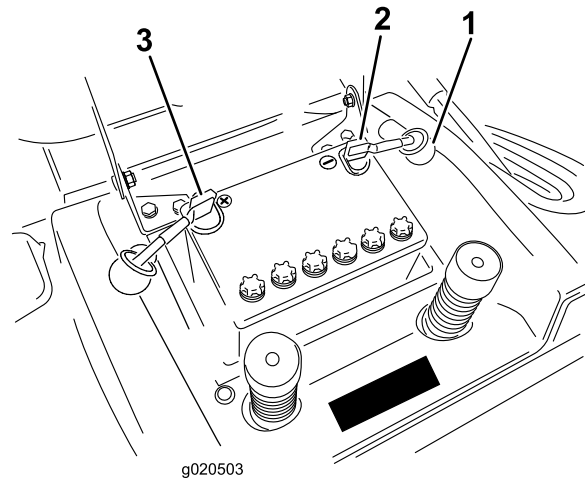

Figure 35
7. Disconnect the negative (black) ground cable from the battery post (Figure 35).
9. Disconnect the positive (red) cable from the battery post (Figure 35).
1. Place the battery into the chassis with the battery posts toward the rear of the machine (Figure 35).
3. Using the bolt and wing nut, connect the positive (red) cable to the positive (+) battery post (Figure 35). Slide the rubber cover over the battery post.
- Using the bolt and wing nut, connect the negative (black) cable to the negative (-) battery post (Figure 35). Slide the rubber cover over the battery post.